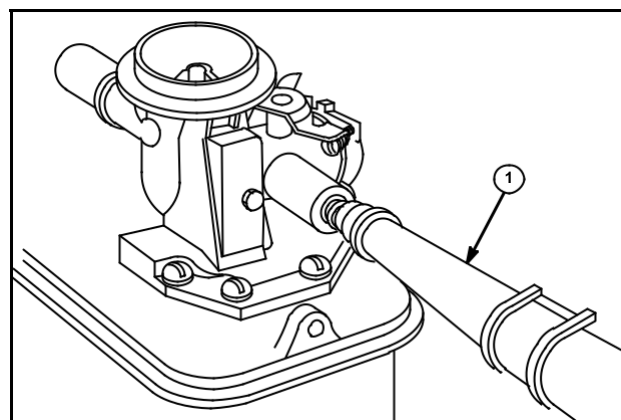

Fig. 50
5. Oil fill tube, Part #280131 (1) will help firmly seat valve assembly, Fig. 50.